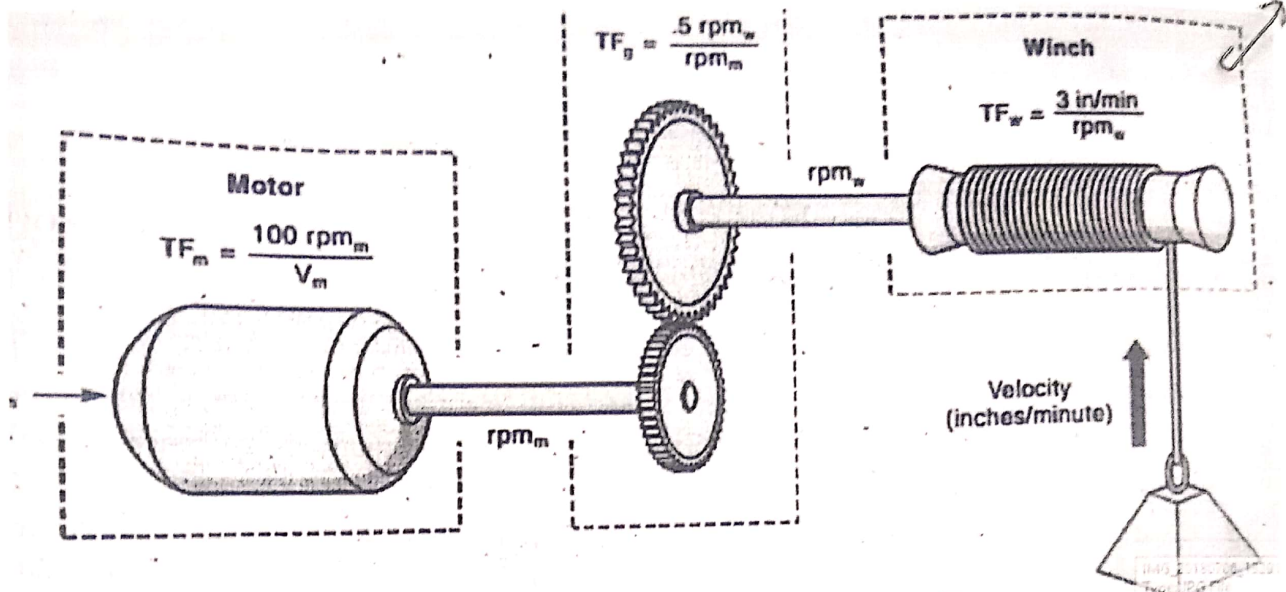

Figure 3: On/off controls for jars filling
- d.) Consider the system given in Figure 3 where an electric motor is driving a gear train which is driving a winch. The motor (under these conditions) turns at 100 rpm for each Volt (V) supplied; the output shaft of the gear train rotates at one-half of the motor speed; the winch (with a 3-inch shaft circumference) converts the rotary motion (rpm) to linear speed.